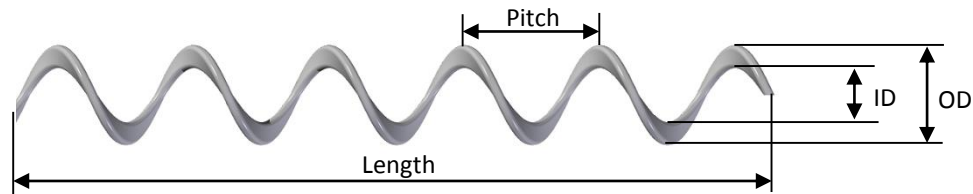

Figure 2: Auger characteristics
An auger, also known as a helicoid or spiral, is made of flat wire and is characterised by its outer diameter (OD), inner diameter (ID) and pitch (see Figure 2 below).